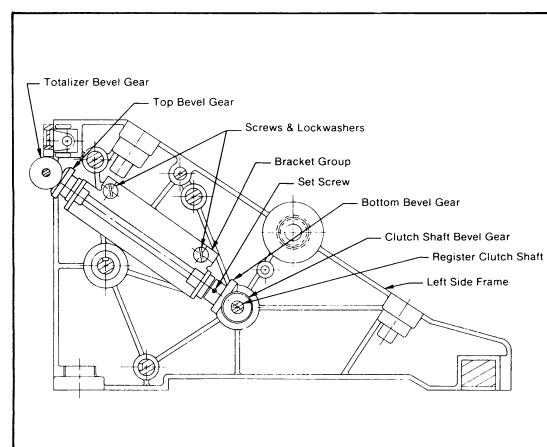

Figure 31. Inside Left Side Plate of Meter Register.
- If required, install new bracket group to inside of left side frame and secure with two screws and lock-washers. See Figure 31.
5. Gearing Adjustment for Totalizer. See Figure 31.